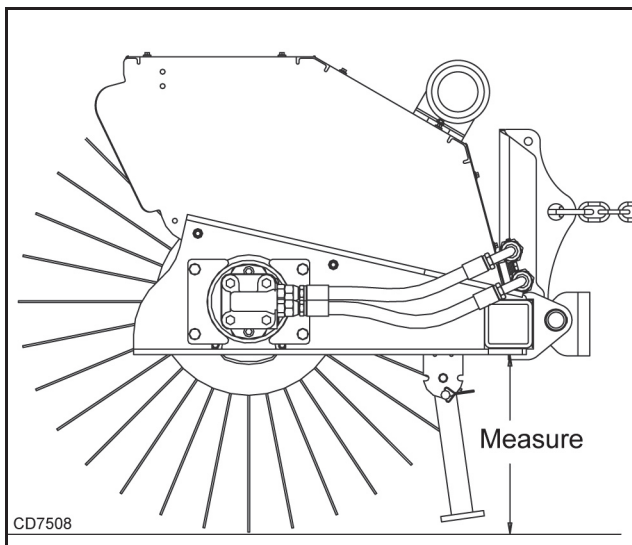

Figure 5. Measure Brush Frame Distance
5. On each side, measure from the brush frame to the ground. See Figure 5.
7. Angle the brush head to the right. Measure again as shown in Figure 5. If measurements are equal, no adjustment is required. If they are not equal, check the level of the mounting assembly and repeat the following steps, if necessary.